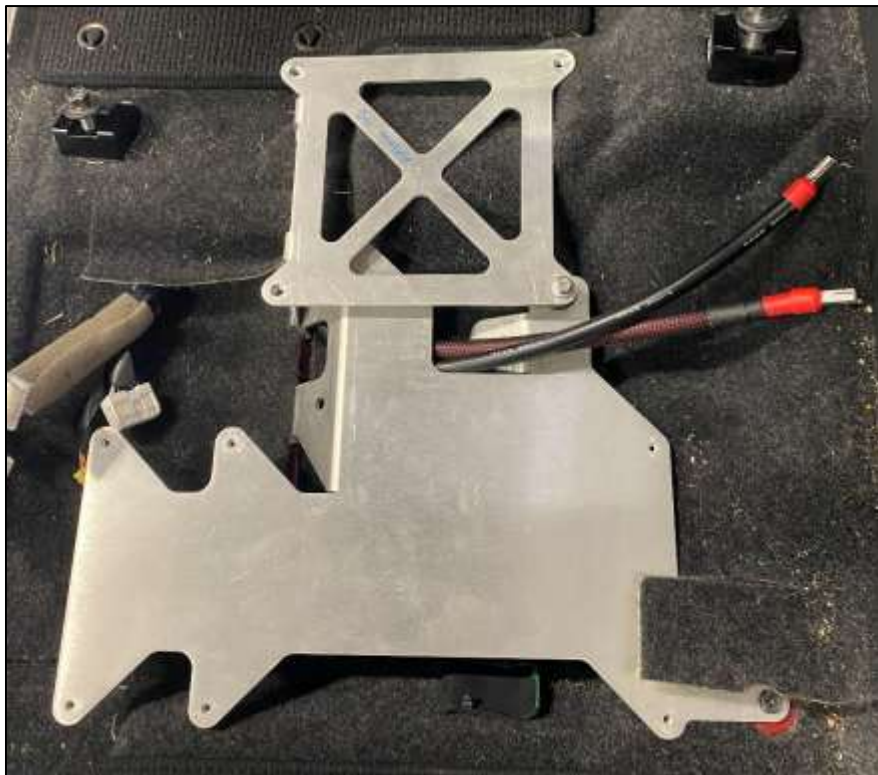

Figure 14
19. Route the Amp Power and Ground Wire up through the Amp Bracket as shown. *Figure 14.*